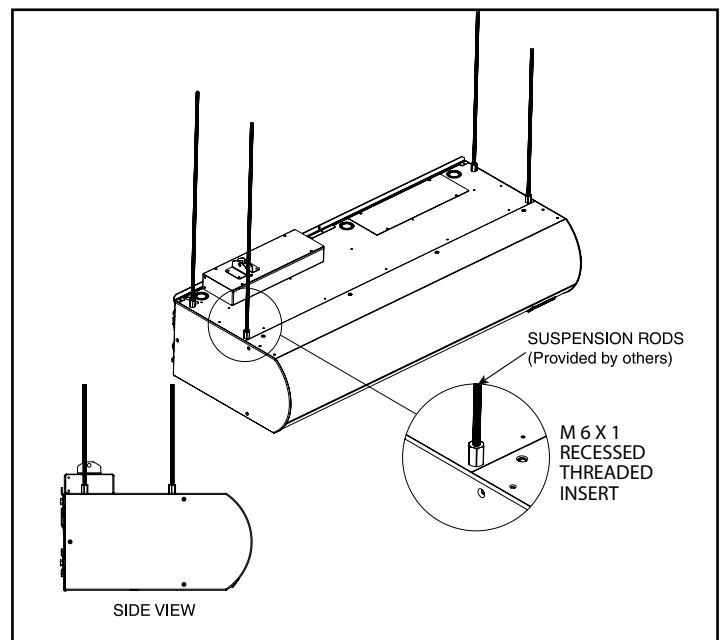

Figure 6 - Suspended Mounting
- A. For top mounting using suspension rods, four (4) factory installed M6 x1 threaded inserts are located on the top of the unit. **See Figure 6.**